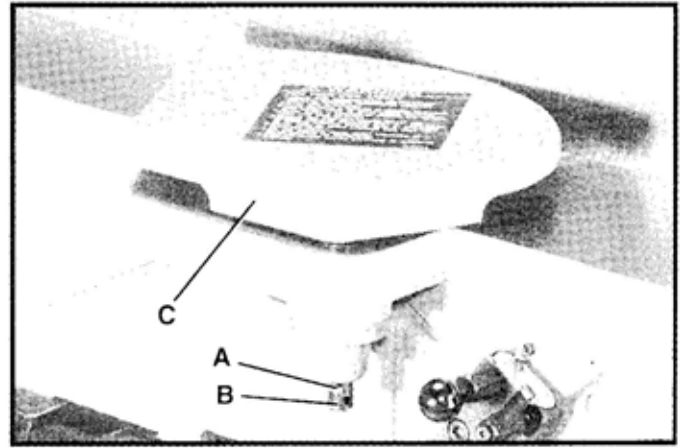

Fig. 24
3. Thread set screw (A) Fig. 24, which was removed in **STEP 1**, back into post (B) to keep cutterhead guard (C) in position during jointer operation.
4. Fig. 24, illustrates the cutterhead guard (C) assembled to the infeed table.